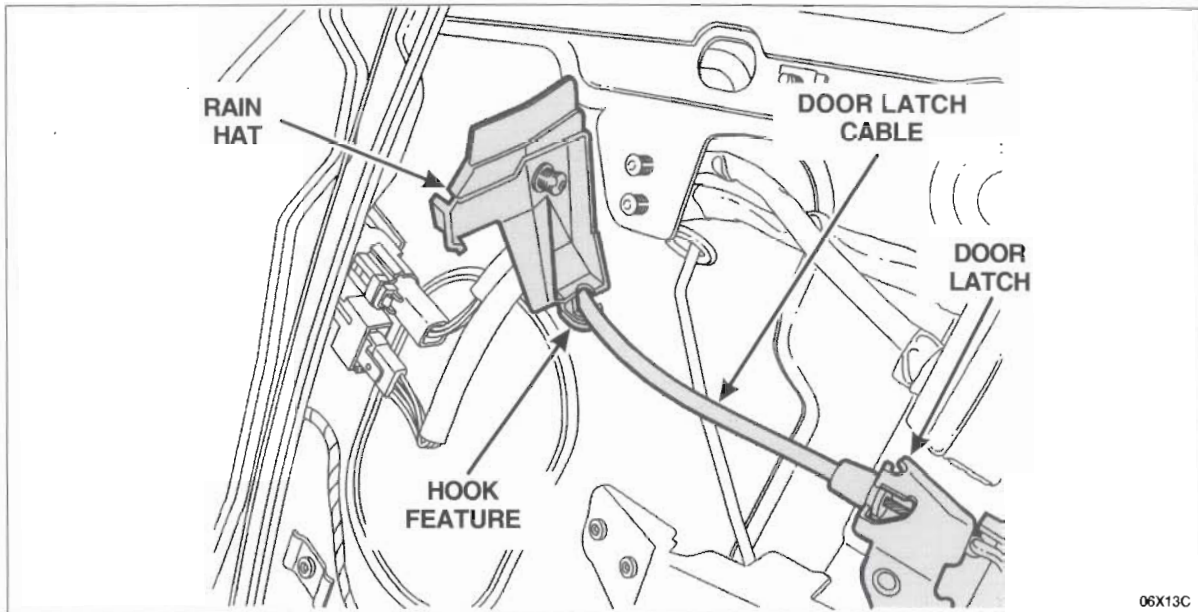

FIGURE 3
- a) Position the rain hat cable hook feature onto the door latch cable. See Figure 3.